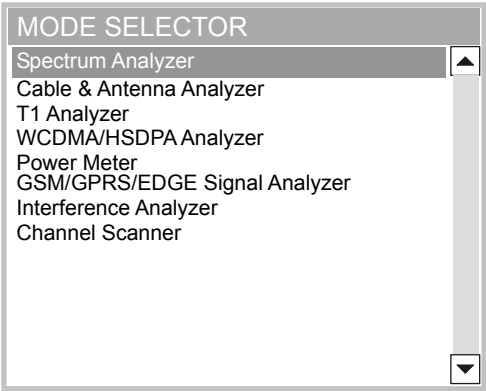

Figure 4-28. Cable & Antenna Analyzer Mode Menu
To access the functions under the Mode menu, press the **Shift** key, then the **Mode** (9) key. Use the directional arrow keys or the rotary knob to highlight the selection and press the **Enter** key to select. The list of modes that appears in this menu will vary depending upon the options that are installed and activated in your instrument. Figure 4-28 is an example of the Mode menu. Your instrument may not show the same list.